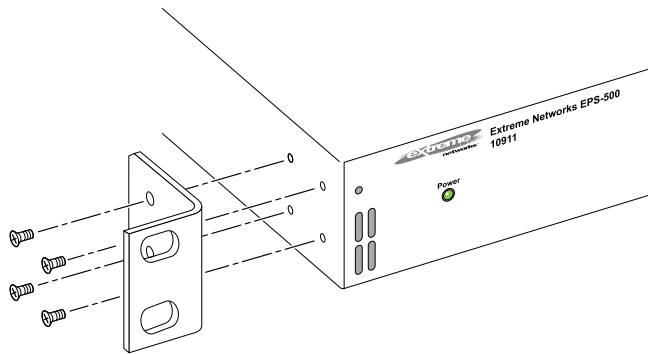

Figure 304: Attaching a Mounting Bracket
- a Place a mounting bracket over the mounting holes on one side of the EPS-500 (see Figure 304: Attaching a Mounting Bracket on page 333).